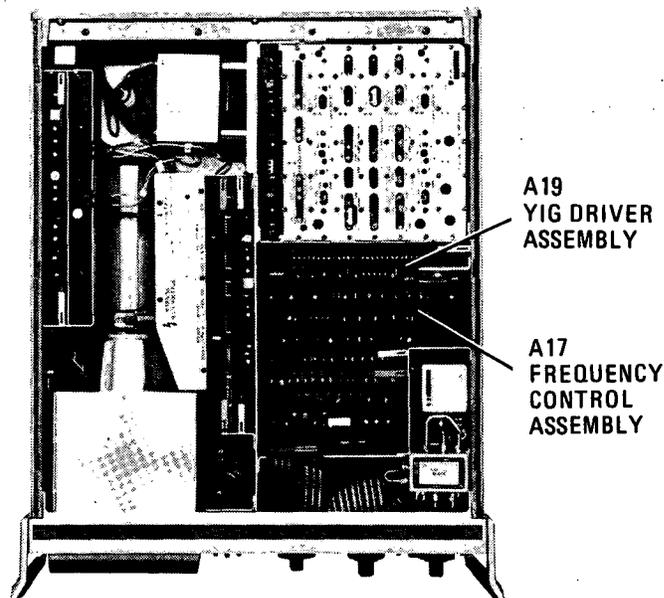

Figure 5-50. YTF Tracking Adjustment Locations
3. Set A19S1 YTF TRACK switch (Figure 5-50) to TEST position.